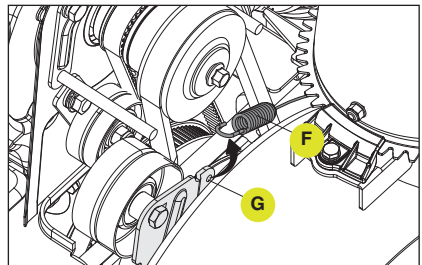

Figure 58
- Unhook the spring (F) from the auger plate (G). (Fig. 58)